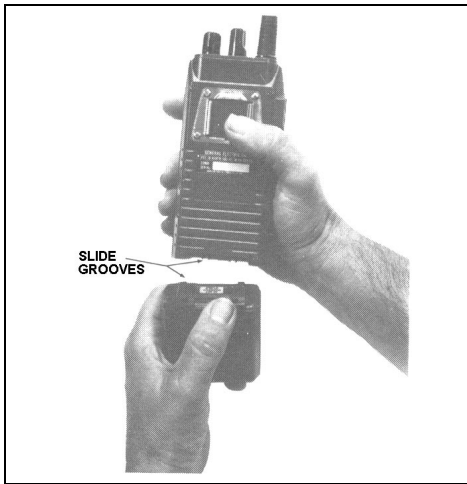

Figure 4 - Installing the Battery Pack
- 3. Align the battery pack and radio slide grooves. See Figure 4.*